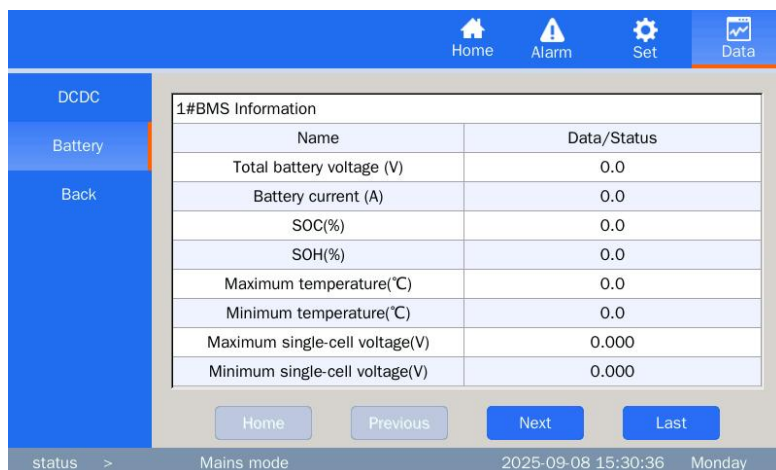

Figure 3-35 Battery Information Interface
b. Click the Battery Information button to query information such as the total voltage of the internal battery of the DC module, individual cell voltages, SOC, SOH, and temperature under the current operating condition. For details, refer to Table 3-16 and Figure 3-35 below.